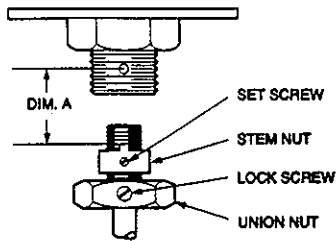

Figure 5. Stem Nut Adjustment
STEM NUT ADJUSTMENT (See Figure 5)
1. For proper seating pressure and correct valve lift, distance from bottom of actuator shaft to top of stem nut must be in accordance with value in Table 1. Dimension "A" is measured with valve stem in DOWN position (closed) and actuator shaft in UP (energized) position (Figure 5).